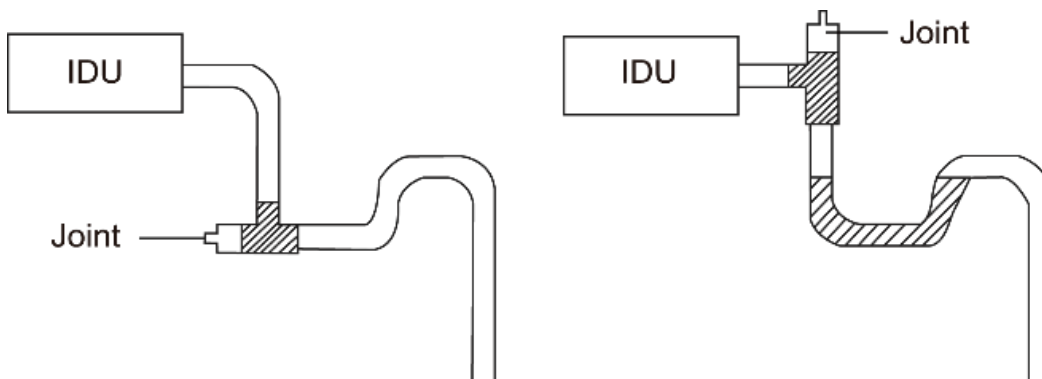

Fig. 13
- e. Install the trap as shown in (Fig. 13).